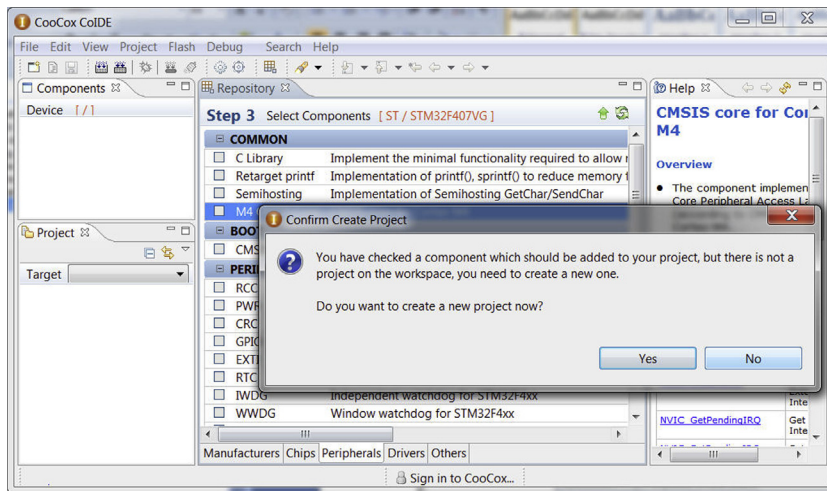

FIGURE 17.12
Step 3 looks a bit more complex. The GUI presents a list of software components that you can include in your project. At minimum you will need the boot code. When you click on any component, a new dialog appears to ask you to select the location and name of the project (Figure 17.12).